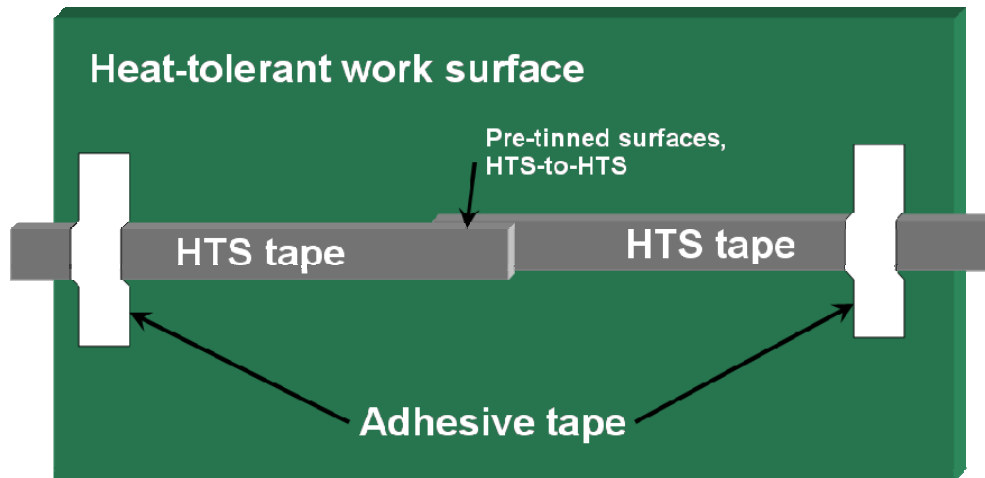

Figure 5. Method of Positioning and Securing HTS Wires for Soldering of Overlap Joint
- d. Roughly align the wires along their lengths and secure them in position. An example of how to do this is shown in Figure 5. Here, the HTS wires are taped to a heat-tolerant work surface such as a G-10 phenolic plate. Note that the adhesive tape must be far enough away from the solder joint to avoid exposure to temperatures that will damage or burn the tape.